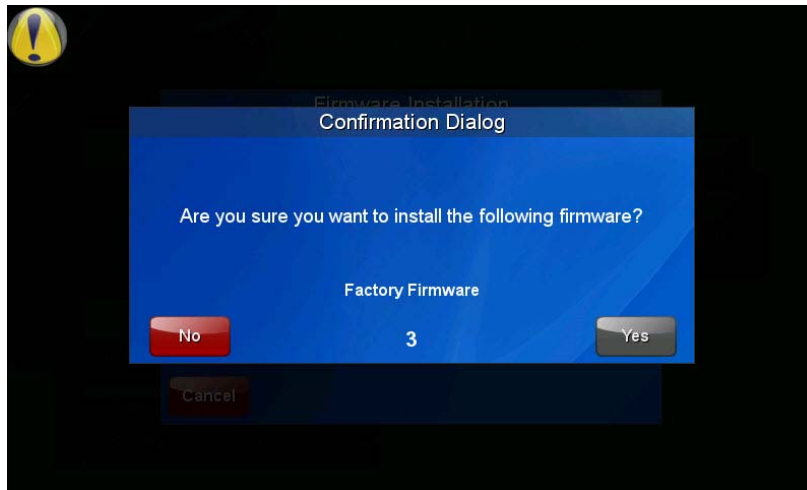

FIG. 110 Factory Firmware reset confirmation dialog box
- The *Confirmation Dialog* box (FIG. 110) will ask “Are you sure you want to install the following firmware?” The option to choose **Yes** will be enabled after five seconds. Press **Yes** to load the firmware listed, and **No** to return to the *Firmware Installation* popup window.